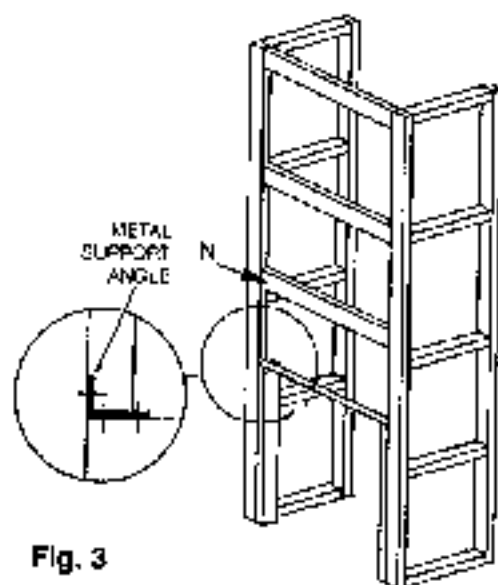

Fig. 3
4. Frame up the enclosure using nominal 90 by 45 dressed timber, verifying that it will be on the flue centreline. (See Fig. 3). The overall depth of the frame should be $(587 + t)$ mm, where 't' is the cladding thickness. The distance between the trimmers (where the assembled shielding box will fit), should be 737mm. The overall width of the enclosure frame shown is the minimum required, but if desired it may be larger. The trimmers do not run the full height, but end 719 mm above the finished top face of the floor.
protector (or 719 mm above the top of the bearers if the heater is 'elevated'). Refer to paragraph 6 for floor protector thickness options and the advantage of 'elevated' installations. Fix the metal support angle across the tops of the trimmers to provide support and framing for the floor heat resistant cladding. (See Fig. 3).